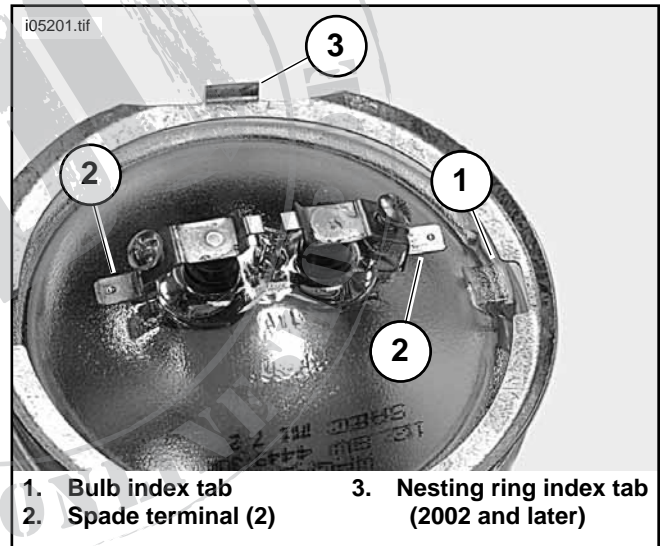

Figure 3. Auxiliary Lamp Bulb Terminals
6. See Service Parts illustration. Locate the outer trim ring (24), inner nesting ring (27), screw (25), and nut (26).
7. See Figure 3. Place the inner nesting ring on the bulb. Connect the black wire to the bulb spade terminal next to the bulb indexing tab (1) on the bulb. Install the gray wire on the remaining spade terminal.
9. Slide the conduit (7) from the kit over the lamp wire.